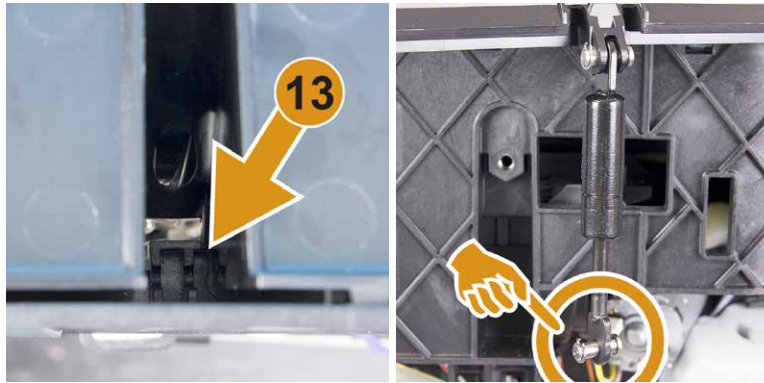

Figure 2: Gas cylinder bolt guide
3. Position cover correctly on the machine. Make sure the gas cylinder bolt is placed correctly in the guide [13], see figures 2.